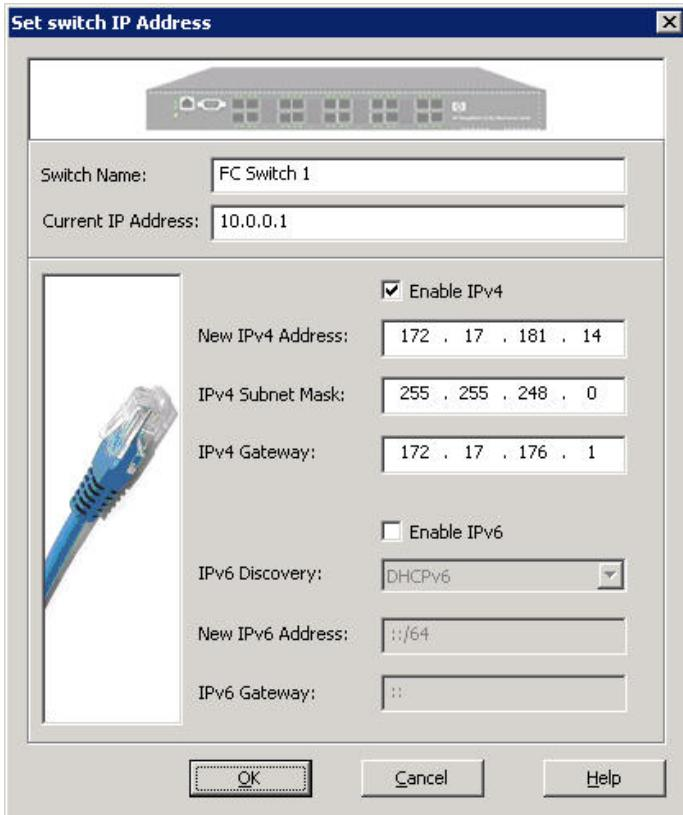

Figure 13 Set Switch IP Address dialog box: new switch setup
- To continue with the first step (setting the switch IP address), click **OK**. The Set Switch IP Address dialog box (Figure 13) opens. Go to step 6.
The Set Switch IP Address dialog box (Figure 13) shows the switch name and default IP address.